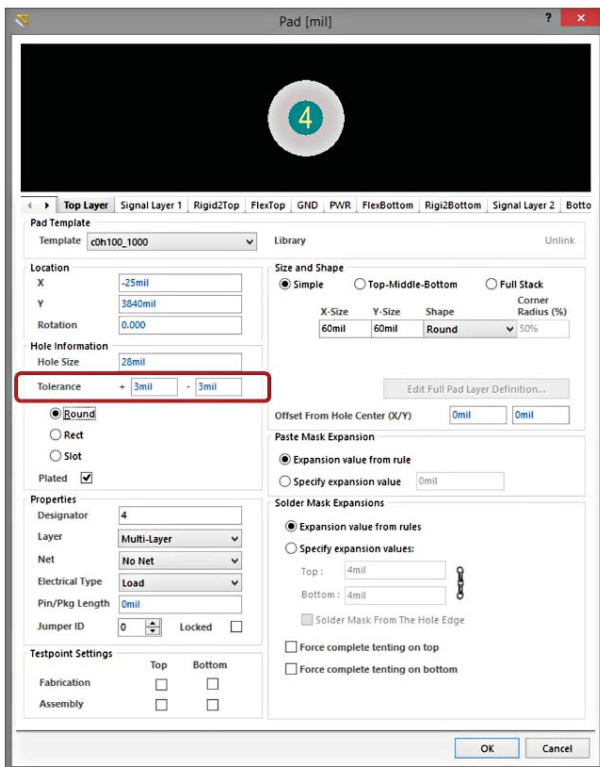

Figure 1: Hole tolerance can be specified in the **Pad Properties** dialog
- Right-click on the pad or via and select **Properties**. In the **Pad Properties** dialog (Figure 1), hole tolerance can be edited under the **Hole Information** section.